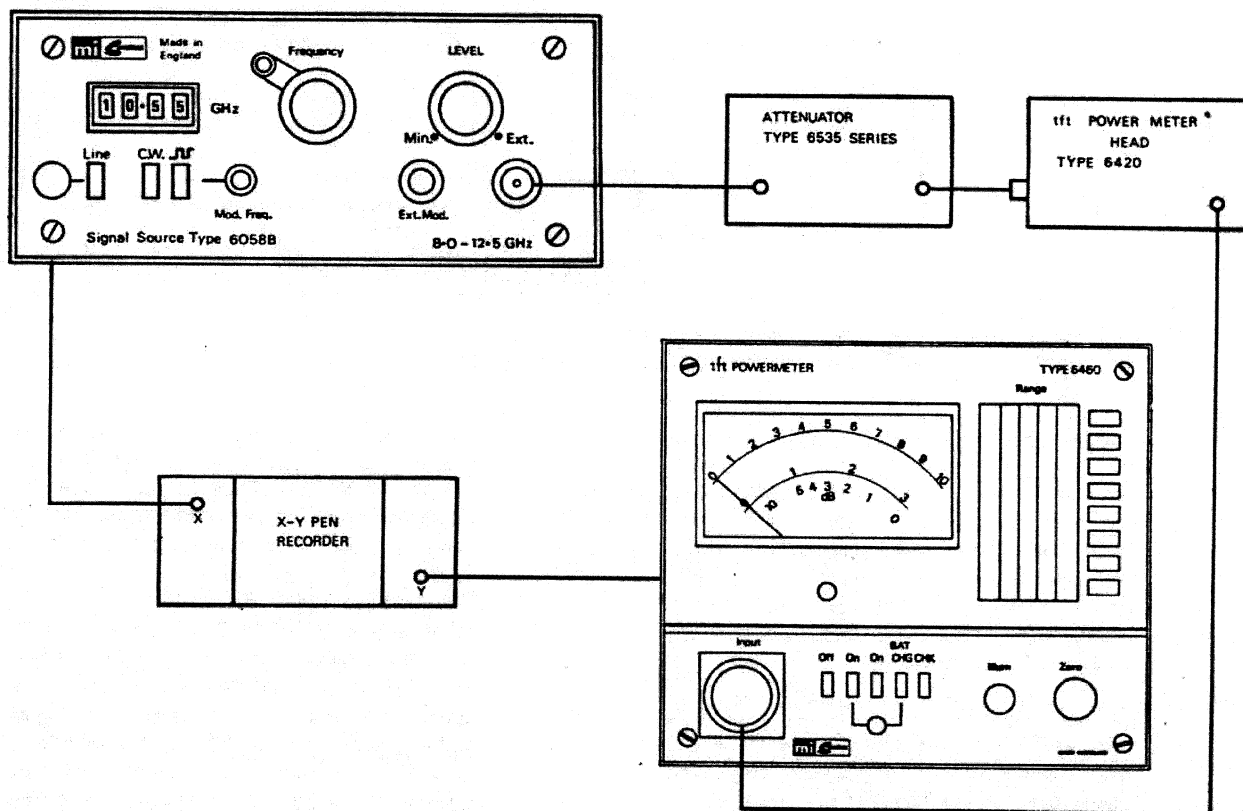

Fig. 11 Attenuation Calibration Circuit
With the system connected as shown in Fig.11:
- With the system connected up as shown in Fig.11, check that the actual output frequency is within $\pm 1\%$ of the wavemeter reading at the following frequencies:
- 1) Using the system shown in Fig.11 with the pen recorder output of the Signal Source connected to the X-input of the pen recorder adjust the Y sensitivity to correspond to f.s.d. on the microwave powermeter.